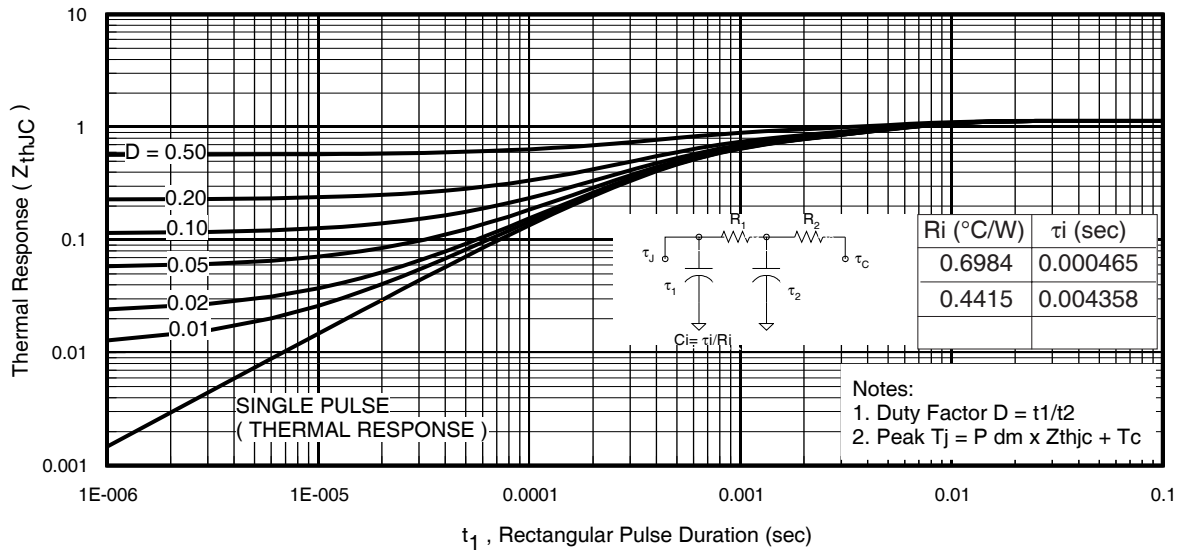
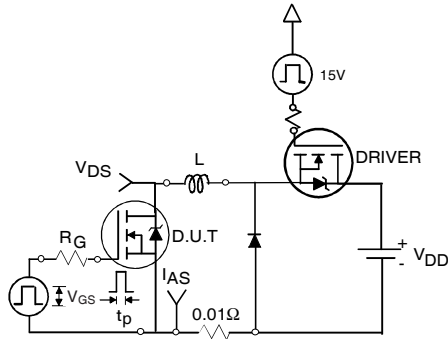

Fig 11. Maximum Effective Transient Thermal Impedance, Junction-to-Case
Fig 12a. Unclamped Inductive Test Circuit
3. Equation below based on circuit and waveforms shown in Figures 12a, 12b.
$Z_{thJC}(D, t_{av})$ = Transient thermal resistance, see figure 11)
- ① Repetitive rating; pulse width limited by max. junction temperature. (See fig. 11).
- ② Limited by T_{Jmax} , starting $T_J = 25^\circ\text{C}$, $L = 0.12\text{mH}$, $R_G = 25\Omega$, $I_{AS} = 42\text{A}$, $V_{GS} = 10\text{V}$. Part not recommended for use above this value.
- ③ Pulse width $\leq 1.0\text{ms}$; duty cycle $\leq 2\%$.
- ④ C_{oss} eff. is a fixed capacitance that gives the same charging time as C_{oss} while V_{DS} is rising from 0 to 80% V_{DSS} .
- ⑤ Limited by T_{Jmax} , see Fig.12a, 12b, 15, 16 for typical repetitive avalanche performance.
- ⑥ This value determined from sample failure population. 100% tested to this value in production.
- ⑦ When mounted on 1" square PCB (FR-4 or G-10 Material). For recommended footprint and soldering techniques refer to application note #AN-994
- ⑧ R_θ is measured at T_J approximately 90°C